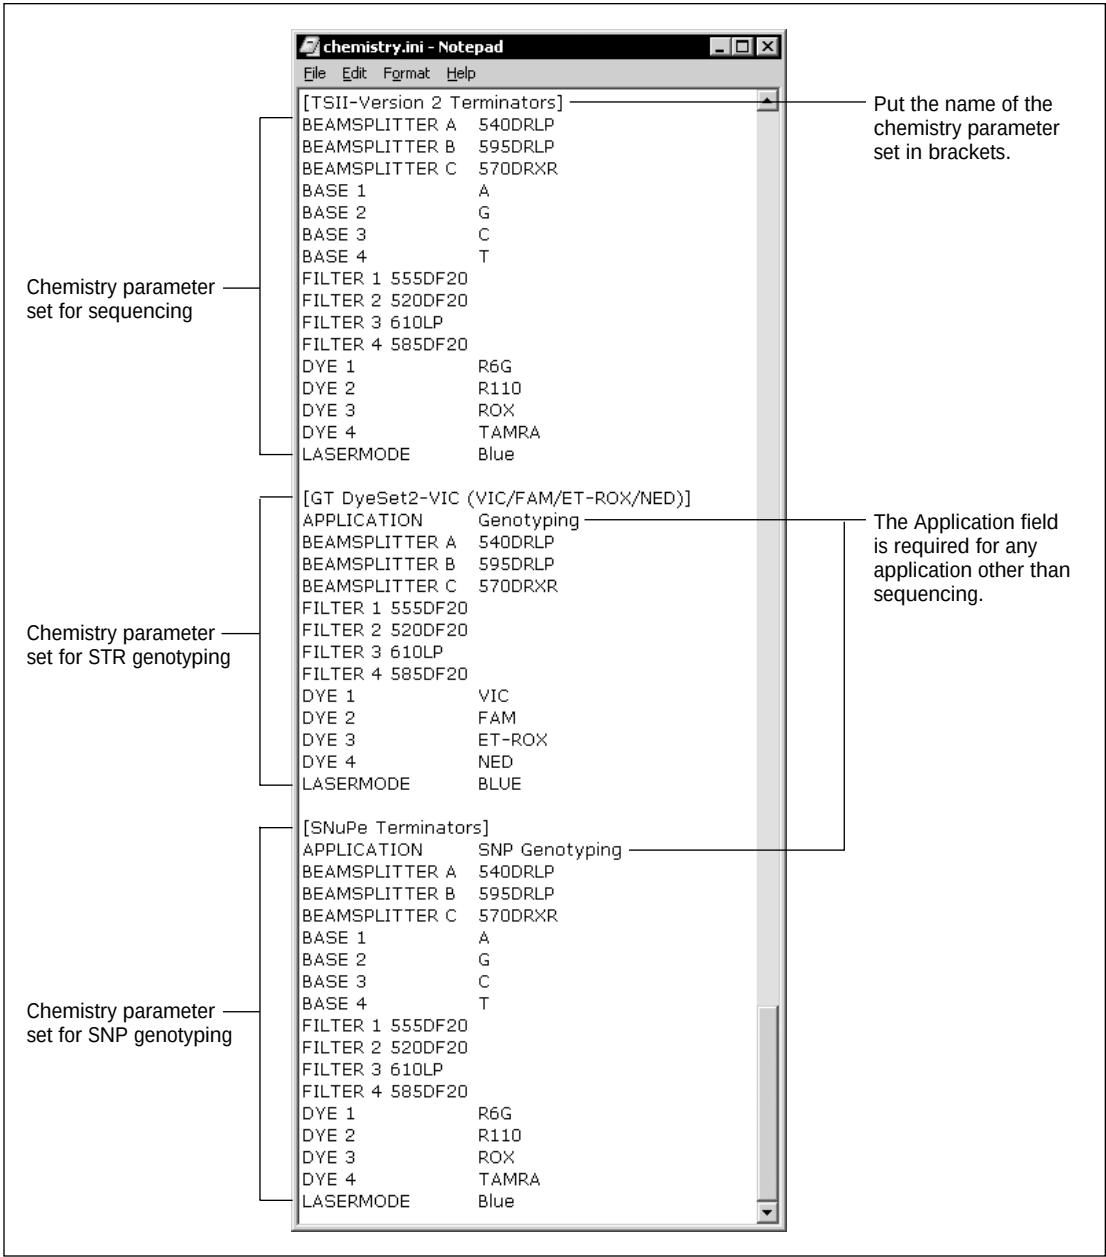

Figure 3-2. A section of the Chemistry.ini file opened in Notepad.
1. Open the Chemistry.ini file using a text editor or Excel. The Chemistry.ini file is located in the ...\\MegaBACE\\Instrument Control\\DataSystem folder. Figure 3-2 shows a section of the Chemistry.ini file.
2. Scroll to the end of the file and type a name for the new chemistry parameter set. You must provide a unique name for each chemistry parameter set. Make sure you put the name in brackets (figure 3-2).